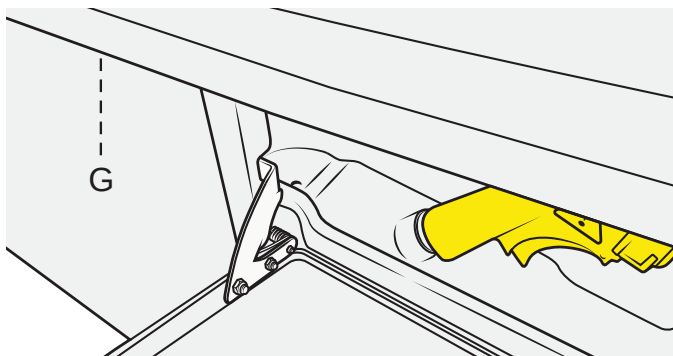

Figure 141
8. Tighten the nut (D), all the way, closest to the disinfection compartment. See Figure 141.